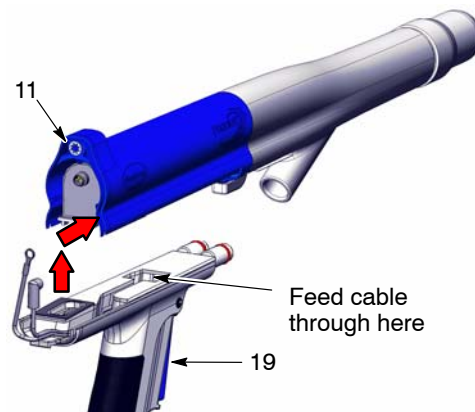

Figure 22 Separating the Gun Body from the Handle
9. See Figure 22. Lift up on the back of the gun body (11) to unsnap it from the handle, then push the body forward to separate it from the handle (19).